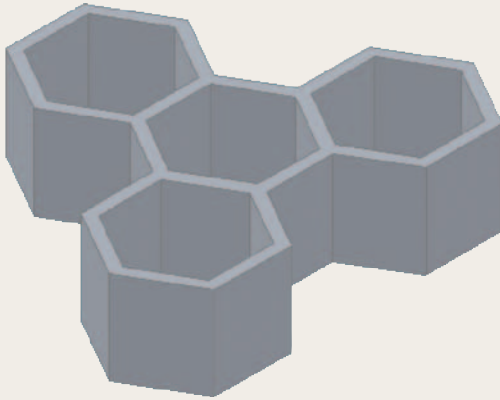

Fig. 12.47 Exercise 2
2. Figure 12.47 shows a 3D model constructed from four polysolids which have been formed into a union using the **Union** tool from the **Modify** panel. The original polysolid was formed from a hexagon of edge length **30**. The original polysolid was of height **40** and **Width 5**. Construct the union.